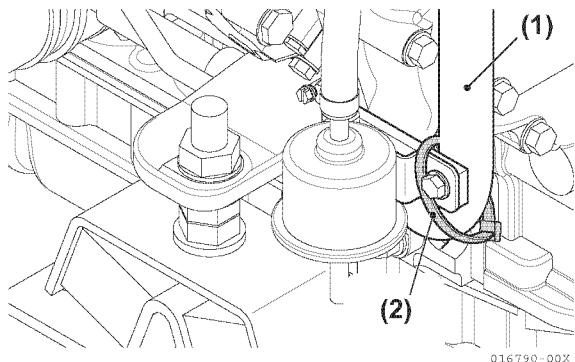

Figure 5-185
- Install the freshwater pipe; lubricating oil cooler, freshwater pump. Attach the pipe to the bracket of the feed pump by nylon band (**Figure 5-185**).